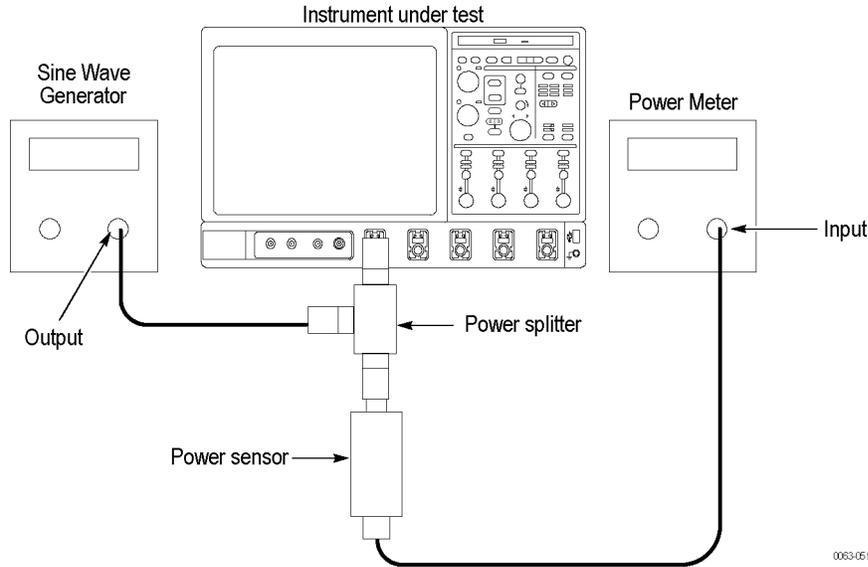

Figure 20: Analog bandwidth test hookup, DPO7000C models <3.5 GHz
c. *Hook up the test-signal source:* Connect the sine wave output of a sine wave generator to **Ch 1** through a power splitter. Connect the power sensor of the power meter to the power splitter. (See Figure 20 on page 289.) Set the output of the generator to a reference frequency of 50 MHz or less.